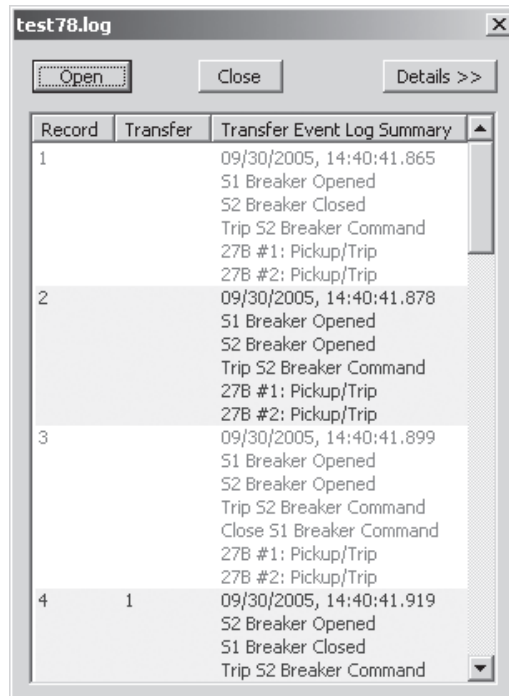

Figure 3-23 Transfer Event Log File Summary Screen
4. Select **Open**. ISScom will **Open** the target file in the Transfer Event Log Viewer **Summary** screen (Figure 3-23).